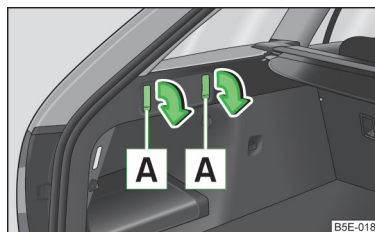

Fig. 81
- Press on the lower portion of the hook **A** and then fold it in direction of the arrow » Fig. 81.